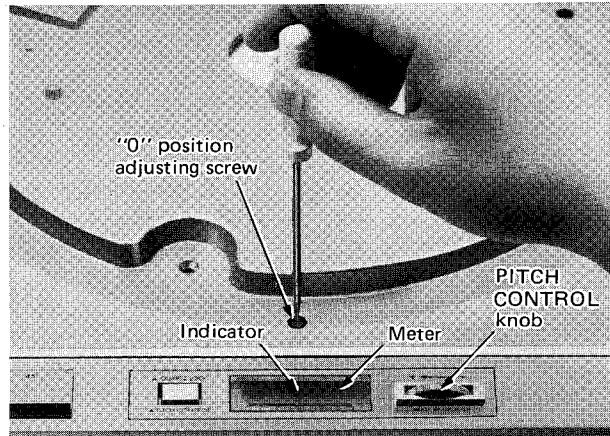

Fig. 7-B
2. Adjustment method (See Fig. 7-C)